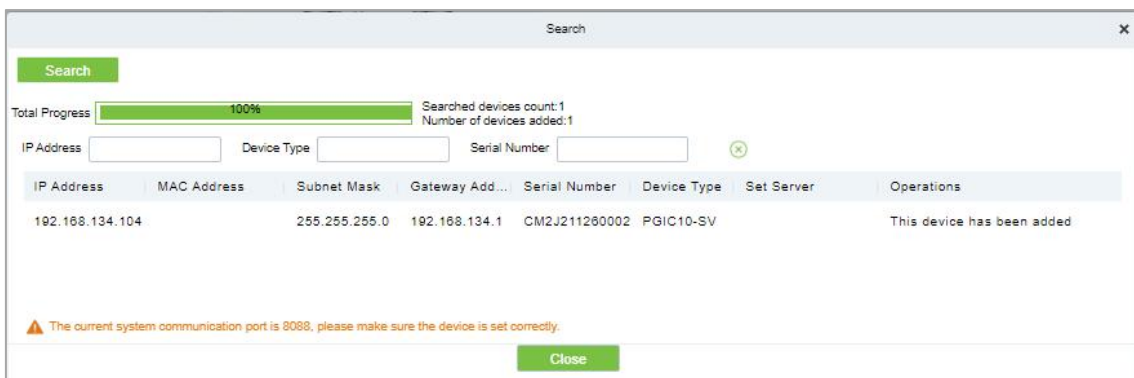

Figure 12-4 Device Search Interface
Step 3: Click **Search** in the search box to display the channel devices that can be added, as shown in Figure 12-4.